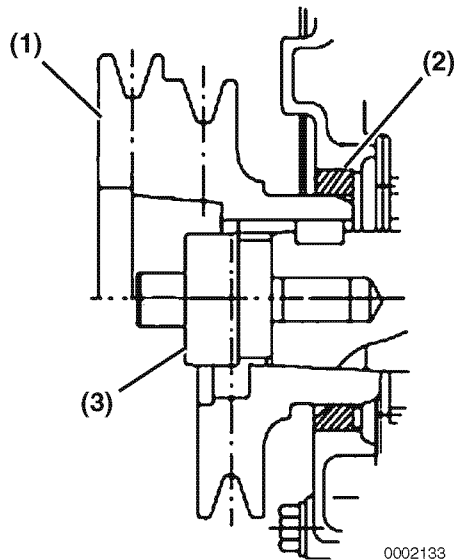

Figure 6-150
3TNV82A, 3TNV84, 3TNV84T, 3TNV88, 4TNV84, 4TNV84T, 4TNV88, 4TNV94L, 4TNV98, 4TNV98T: Use the crankshaft pulley installation tool (Figure 6-150, (3)) when reinstalling the pulley (Figure 6-150, (1)). The tool will guide the pulley hub and protect the front seal (Figure 6-150, (2)) from damage.